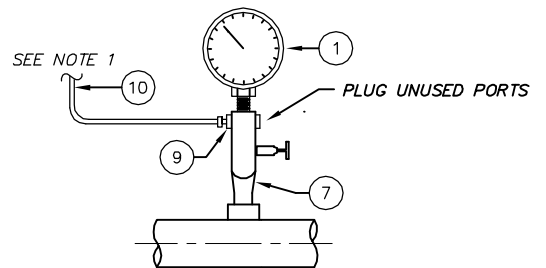

FIG. 4 CLEAN SERVICE
1. TO REMOTE MOUNT PRESSURE SWITCH OR OTHER GAUGE VALVES (FIG. 4 ONLY) WHEN REQUIRED BY APPLICATION. SEE DWG. ISD-03.